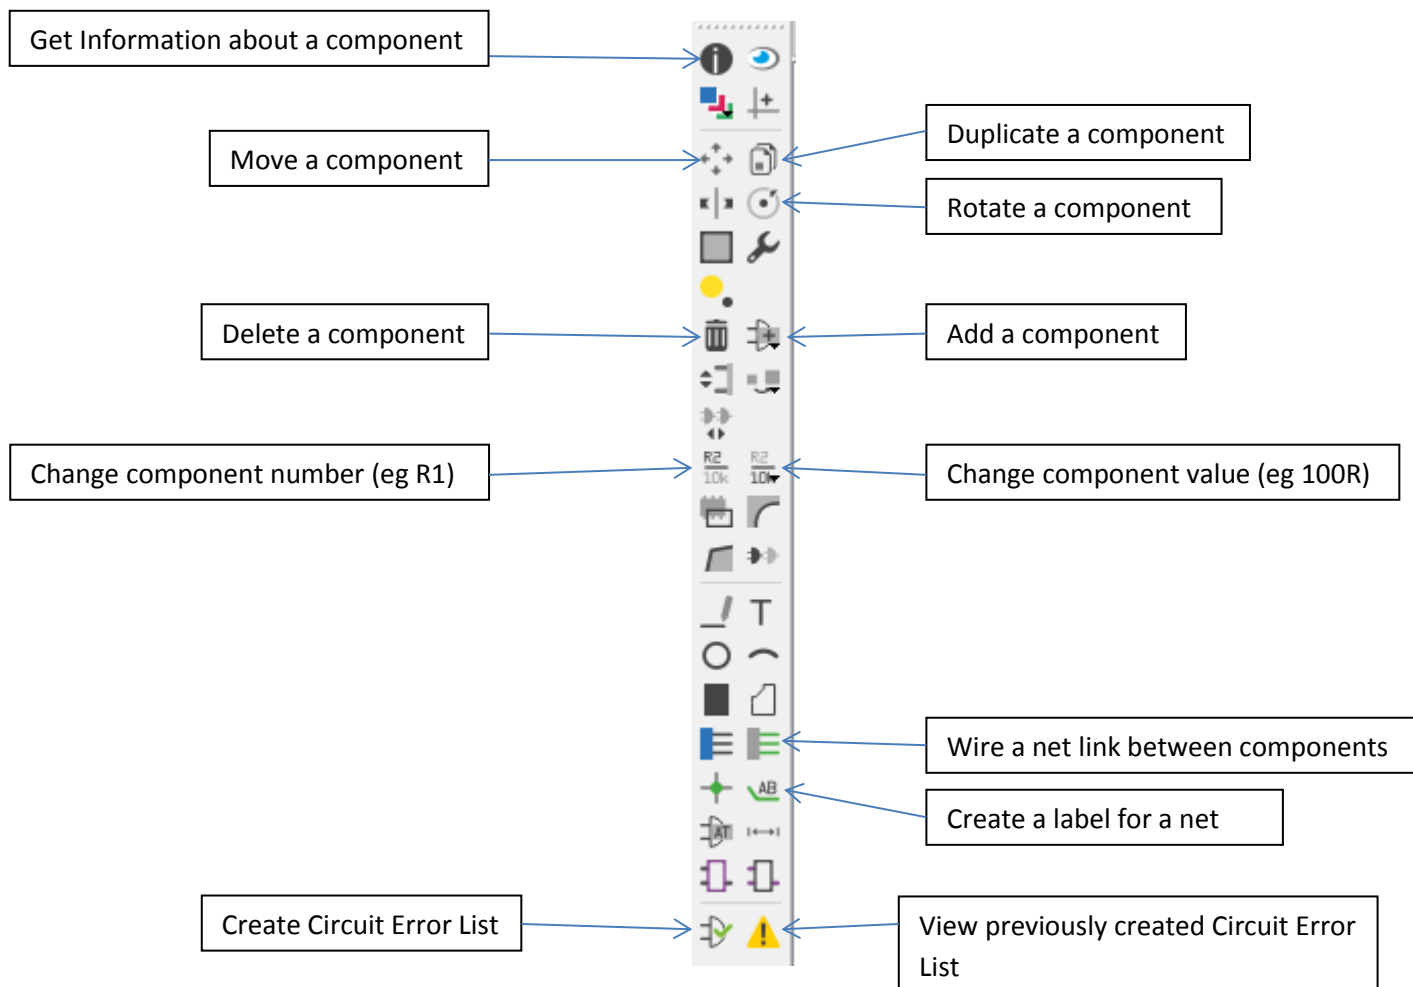

Figure 1: Eagle Toolbox Buttons
- b. Eagle is fairly straight forward once you know what the buttons do, see Figure 1 for the most commonly used, there are more but the labelled ones are sufficient for you to create a schematic and use the schematic to generate the layout of a board:
- c. The basic idea is to ADD components from a library and then NET (wire) them together. From the schematic you generate a board. Use the Create Circuit Error List button Figure 1 to determine if your circuit is satisfactory. Note – Eagle will allow you to build a circuit board layout from an “incomplete – with errors” schematic.